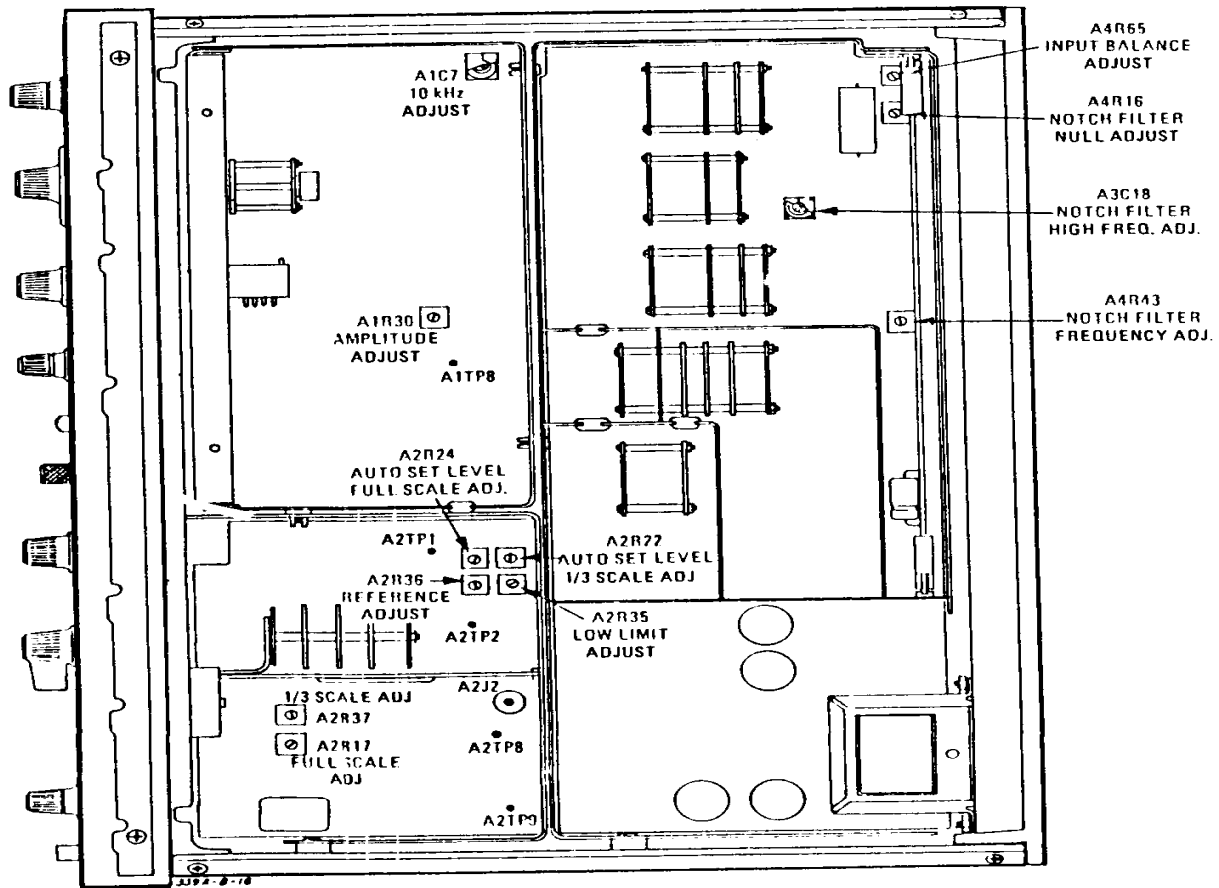

Figure 1. Test instrument - bottom view.
- (1) Set **INPUT RANGE** switch to **3 V**.
- (2) Adjust calibrator output to 3 V and 1 kHz.
- (3) Adjust **A2R17 FULL SCALE ADJ** (fig. 1) for TI meter indication of 3 V (R).
- (4) Adjust calibrator output for 1 V.
- (5) Adjust **A2R37 1/3 SCALE ADJ** (fig. 1) for a TI meter indication of 1 V on 3 V range (R).
- (6) Repeat (2) through (5) above for best in-tolerance condition.
- (7) Connect multimeter to A2TP2 (fig. 1) and chassis ground.
- (8) Adjust calibrator output to 3.162 V and 1 kHz.
- (9) Adjust **A2R36 REFERENCE ADJUST** (fig. 1) for a multimeter reading of 3.162 V dc (R).
- (10) Reduce calibrator output to 0.94 V ac.
- (11) Adjust **A2R35 LOW LIMIT ADJUST** (fig. 1) until **INPUT RANGE** low limit indicator (front panel) just lights (R).
- (12) Increase calibrator output to 0.95 V ac. Low limit indicator should turn off. If not, repeat (7) through (11) above.
- (13) Set **LINE** switch to **OFF**.
- (14) Disconnect cable connector from A2J2 (fig. 1). Place cable in a place that will not short cable to chassis.
- (15) Connect a jumper wire, using test lead between A2TP1 and A2TP8 (fig. 1).
- (16) Connect multimeter between A2TP9 (+) (fig. 1) and chassis ground.
- (17) Adjust output of calibrator to 3.0 V and 1 kHz.
- (18) Set **LINE** switch to **ON**.
- (19) Adjust **A2R24 AUTO SET LEVEL FULL SCALE ADJ**. (fig. 1) for an indication of 3.162 V dc on multimeter (R).
- (20) Reduce calibrator output to 1.0 V ac.
- (21) Adjust **A2R22 AUTO SET LEVEL 1/3 SCALE ADJ** (fig. 1) for a multimeter indication of 3.1612 V dc (R).
(22) Set **LINE** switch to **OFF**.
(23) Reconnect TI cable connector to A2J2 (fig. 1) and disconnect jumper cable from A2TP1 and A2TP8 (fig. 1).
(24) Set **LINE** switch to **ON**.
- (1) Connect multimeter between test points A1TP8 (fig. 1) and shield of assembly A1 (fig. 1), using leads.
- (2) Position controls as listed in (a) through (c) below:
- (3) Adjust **A1R30 AMPLITUDE ADJUST** (fig. 1) for multimeter indication between -0.3 and -0.5 V dc (R).
- (4) Change **FREQUENCY** multiplier control to each range and verify that voltage level at A1TP8 remains negative.
- (5) Repeat **a**(1) through (5).
b. Adjustments. Adjust **A1C7 10 kHz ADJUST** (fig. 1) for best in-tolerance indications between 1.0 x 10K and 10.0 x 10K settings (R).